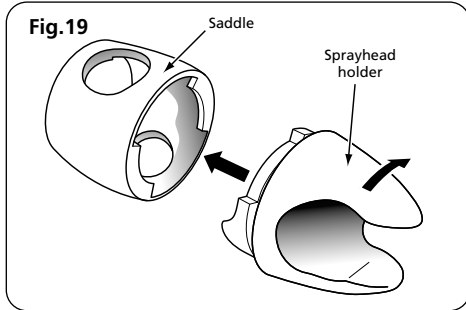
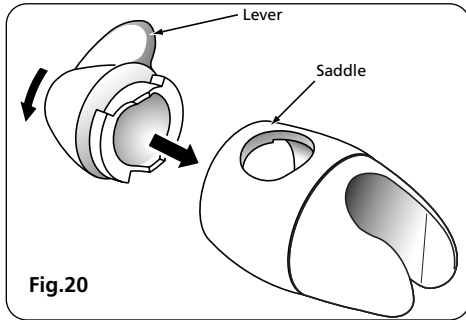

Fig. 19
Fig. 20
**C** Push the sprayhead holder into the saddle and turn to secure (**fig. 19**). Ensure that the narrow end faces down. Fit the lever into the saddle and turn so that the thumb lever is facing towards you (**fig. 20**).